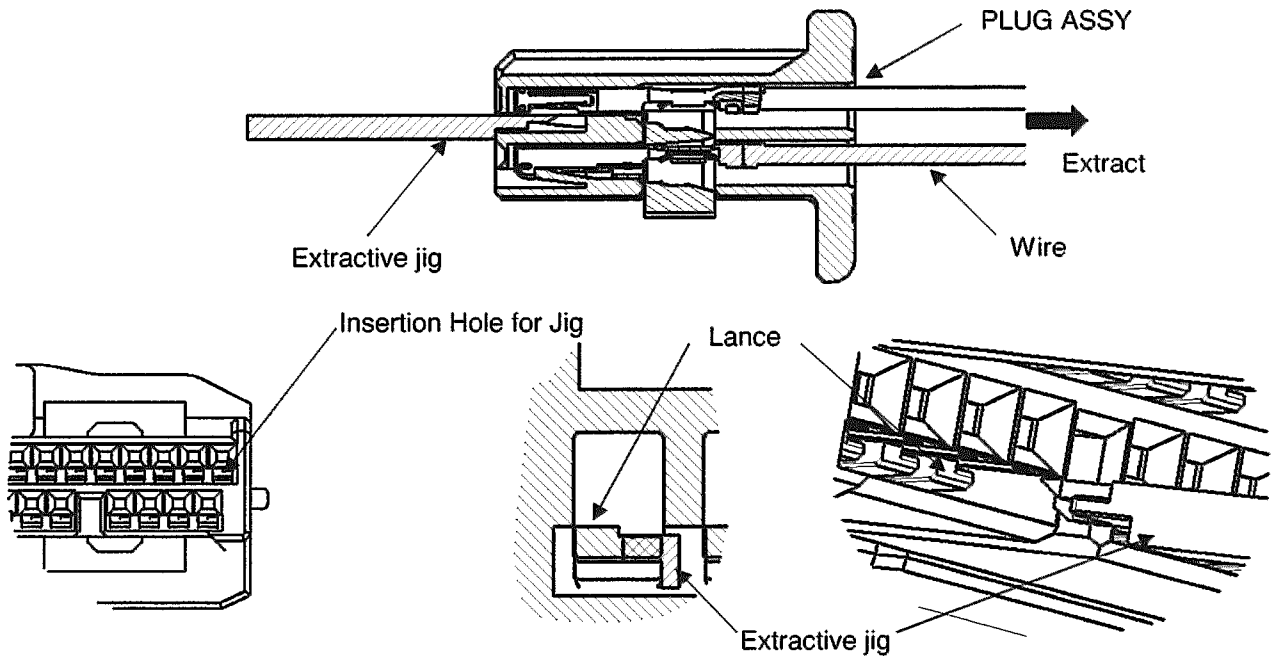

Fig.12
- (1) Confirm the retainer is in pre-assembled condition. When the retainer is in final lock condition, it must be changed to pre-assembled condition. See para.6.3. The female contact can not be extracted in final assembled condition.
- (2) In the case of 0.50 female contact, insert the special extractive jig into the proper hole to the end, remove the loaded contact from housing while pull the crimped wire. See Fig.12.
(3) In the case of 0.50 male contact, insert the special extractive jig into the proper hole to the end, remove the loaded contact from housing while pull the crimped wire. See Fig.12.